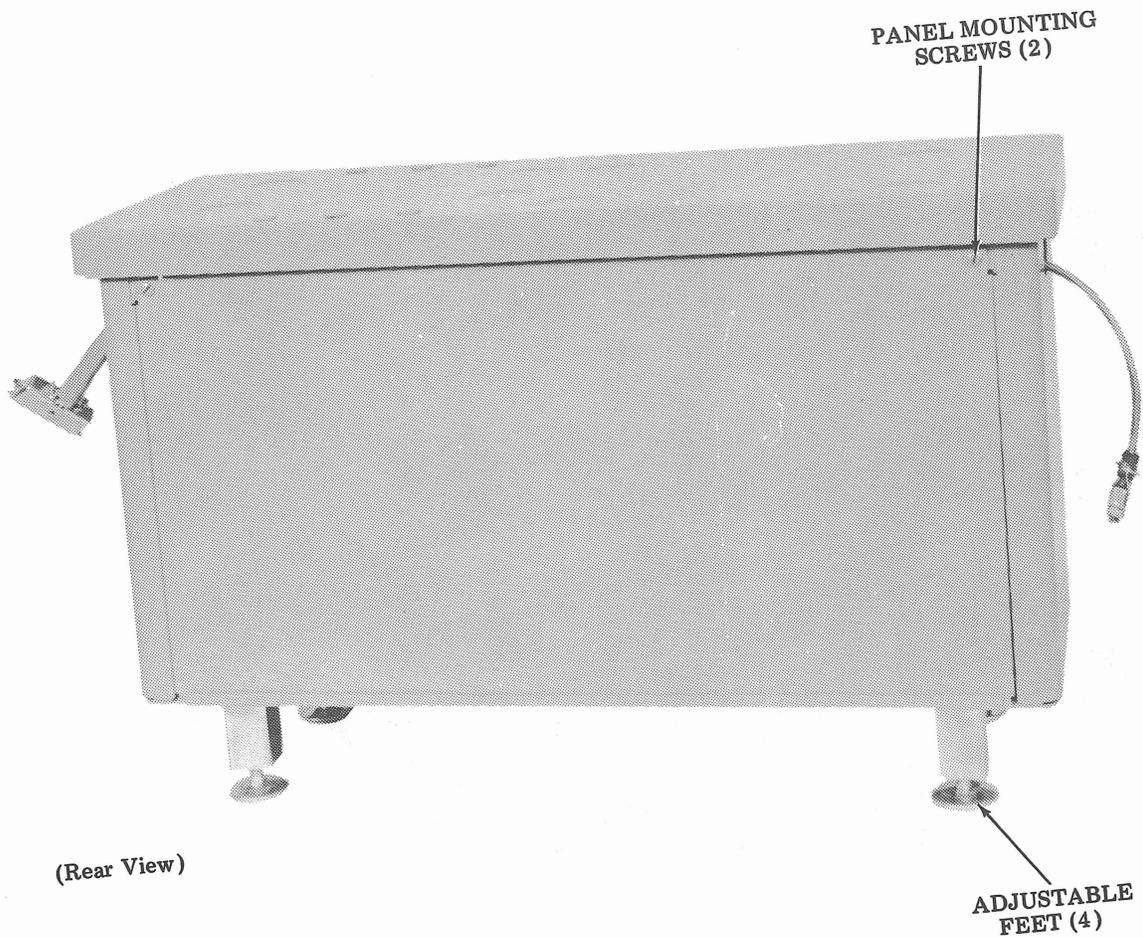

Figure 5 - 35 Edge Punched Card Feeder and Reader Table
3.04 Remove the two panel mounting screws and remove the rear access panel to gain access to the cables and electrical components (Figure 5).